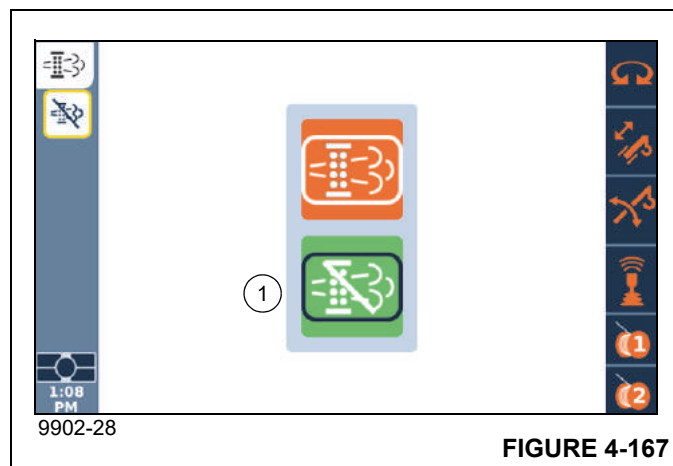

FIGURE 4-167
1. Using the Jog Dial or the Up/Down Arrow Buttons on the Navigation Control Pad, select the Inhibit Cleaning Process Icon (1, Figure 4-167) (icon changes to orange).